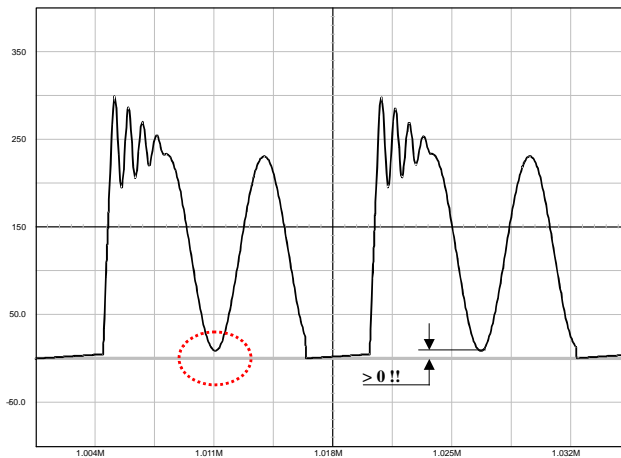

Figure 47. The Drain-Source Wave Shall Always be Positive
1. The lateral MOSFET body-diode shall never be forward biased, either during start-up (because of a large leakage inductance) or in normal operation as shown in Figure 47. This condition sets the maximum voltage that can be reflected during toff. As a result, the Flyback voltage which is reflected on the drain at the switch opening cannot be larger than the input voltage. When selecting components, you thus must adopt a turn ratio which adheres to the following equation:
Figure 49a: the simple capacitor limits the voltage according to the lateral MOSFET body–diode shall never be forward biased, either during start–up (because of a large leakage inductance) or in normal operation as shown by Figure 47. This condition sets the maximum voltage that can be reflected during t_{off} . As a result, the flyback voltage which is reflected on the drain at the switch opening cannot be larger than the input voltage. When selecting components, you must adopt a turn ratio which adheres to the following Equation 3. This option is only valid for low power applications, e.g. below 5 W, otherwise chances exist to destroy the MOSFET. After evaluating the leakage inductance, you can compute C with (Equation 4). Typical values are between 100 pF and up to 470 pF. Large capacitors increase capacitive losses...